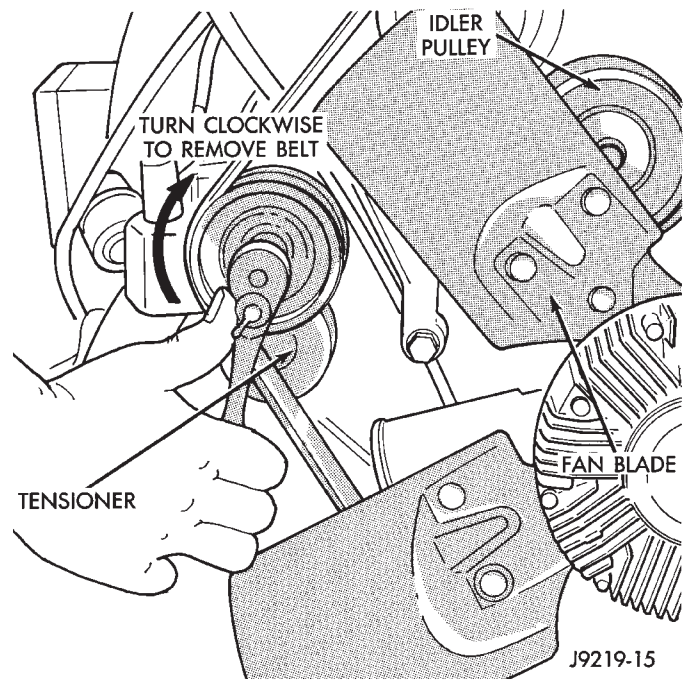

Fig. 39 Automatic Belt Tensioner—5.2L/5.9L Engines
(a) Remove generator drive belt as follows: Drive belts on the 5.2L/5.9L engines are equipped with a spring loaded automatic belt tensioner (Fig. 39).
(b) Attach a socket/wrench to pulley mounting bolt of automatic belt tensioner (Fig. 39).
- (d) Attach a socket/wrench to pulley mounting bolt of automatic belt tensioner (Fig. 39).
- (8) Fill cooling system. Refer to Refilling Cooling System in this group.